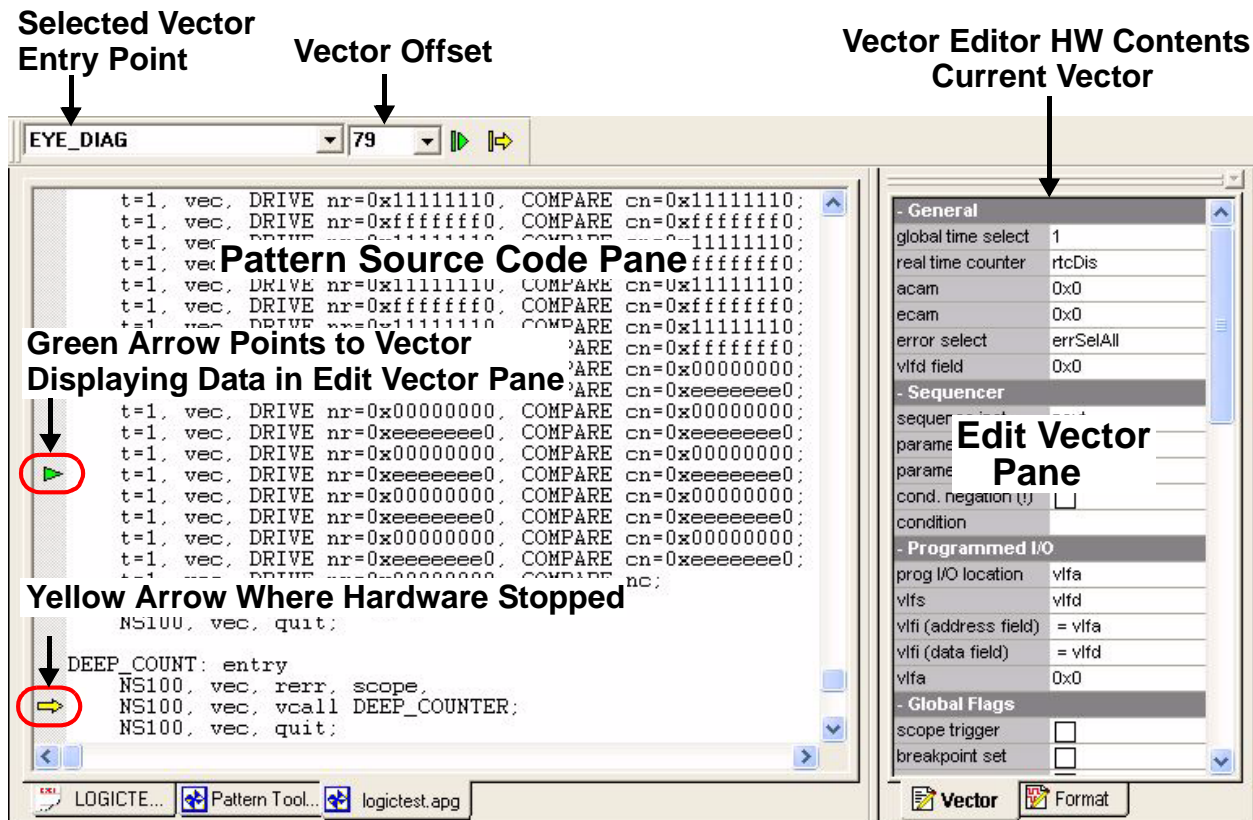

Figure 5-56. Displaying a Vector's Contents in the Edit Vector Pane
- 6 Selecting the `Display Vector` command in the pop-up menu displays a green arrow at that vector and displays that vector's contents in the Edit Vector Pane (Figure 5-56).